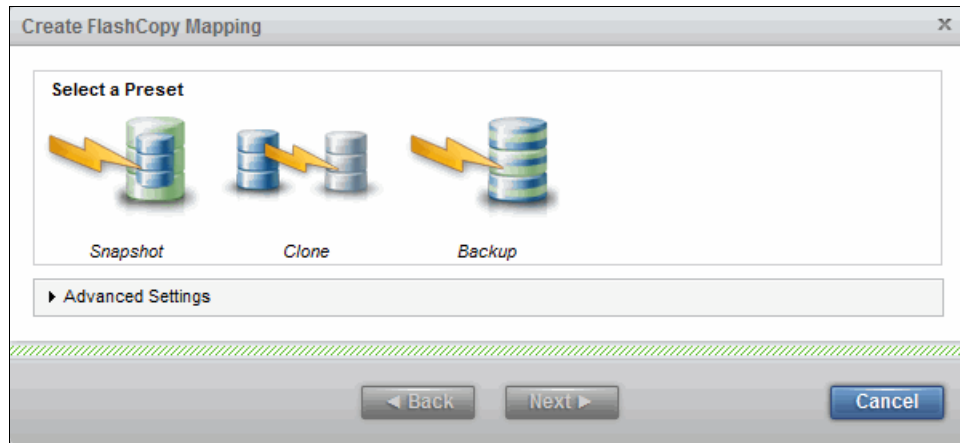

Figure 10-15 Choose a preset most similar to your requirement
- The wizard guides you to choose a preset, as shown in Figure 10-15. Choose one preset that has the most similar configuration to the one that is required.